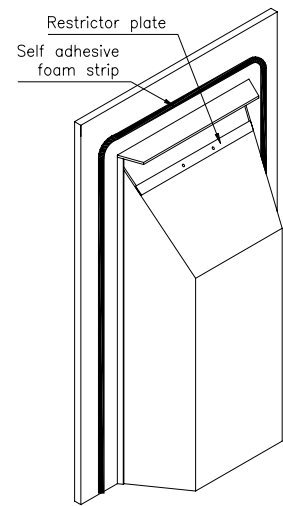

Fig. 3 Fitting the restricter plate
1. Fit the restrictor plate using 2 screws provided, as shown in Fig. 3.
2. Secure the self-adhesive foam strip to the back of the sealing flange (Fig. 3)
1. Secure the self-adhesive foam strip to the back of the sealing flange or convection box flange as appropriate (Fig. 3).
If after introducing ventilation into the room spillage is still detected, remove the restricter plate if fitted (see Fig. 3) and retest for spillage. If spillage is still detected the cause must be discovered and the fault corrected. If the fault cannot be corrected, disconnect the gas supply to the appliance and seek expert advice. Possible causes of spillage are chimney restrictions, or an incorrect cowl or terminal.